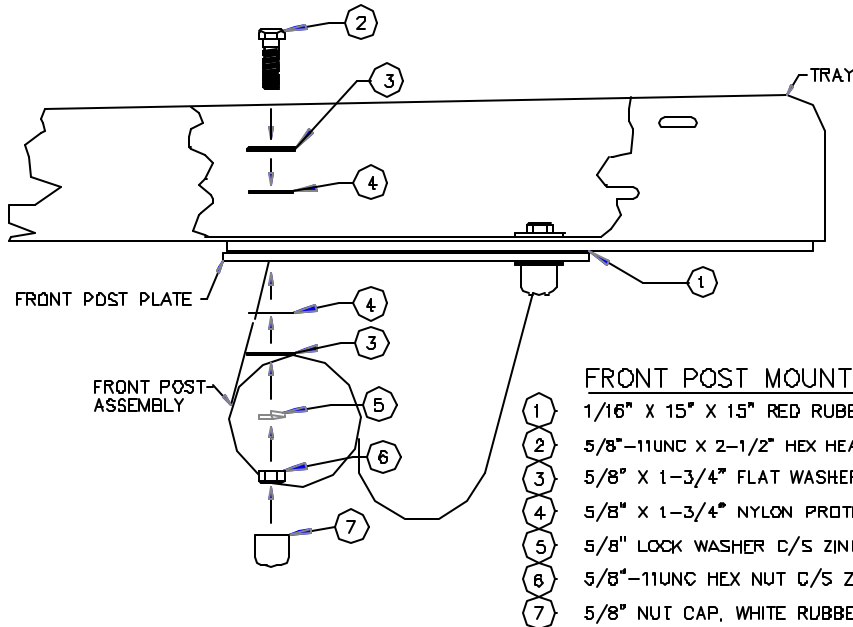
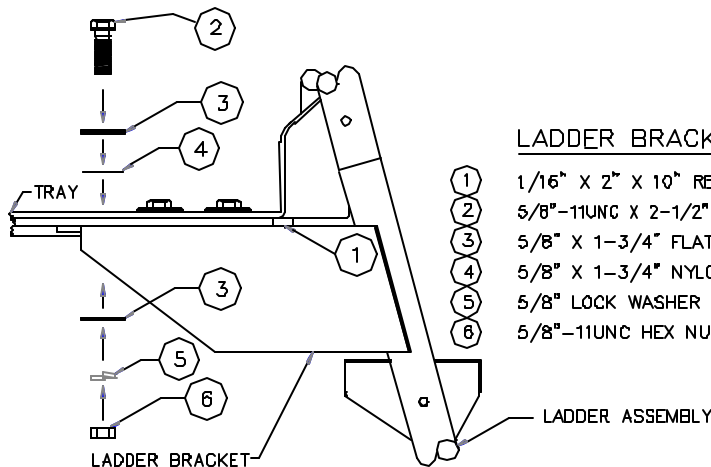

FIG. 8
FIG. 9
- 6 Place gaskets on top of the Ladder Brackets, Front Post Plate and Heel Post Flange. Place Tray on these gaskets and align holes in Tray with the holes in the Front Post Plate. Assemble with hardware according to Fig. 8. Align holes in Ladder Brackets and Heel Post Flange with the holes in the Tray. Assemble with hardware according to Fig. 9 and 10. See step 7 for tightening schedule.